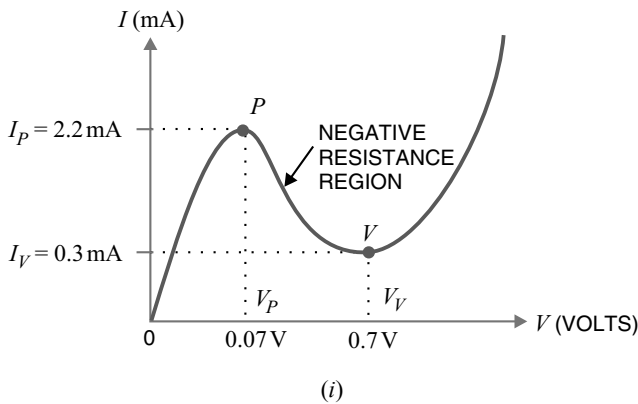

Fig. 5.21
**V-I Characteristic.** Fig. 5.21 (i) shows the  $V$ - $I$  characteristic of a typical tunnel diode.
(iii) When forward bias is increased beyond valley-point voltage  $V_V$  ( $= 0.7$  V), the tunnel diode behaves as a normal diode. In other words, from point  $V$  onwards, the diode current increases with the increase in forward voltage *i.e.* the diode exhibits positive resistance once again. Fig. 5.21. (ii) shows the symbol of tunnel diode. It may be noted that a tunnel diode has a high reverse current but operation under this condition is not generally used.